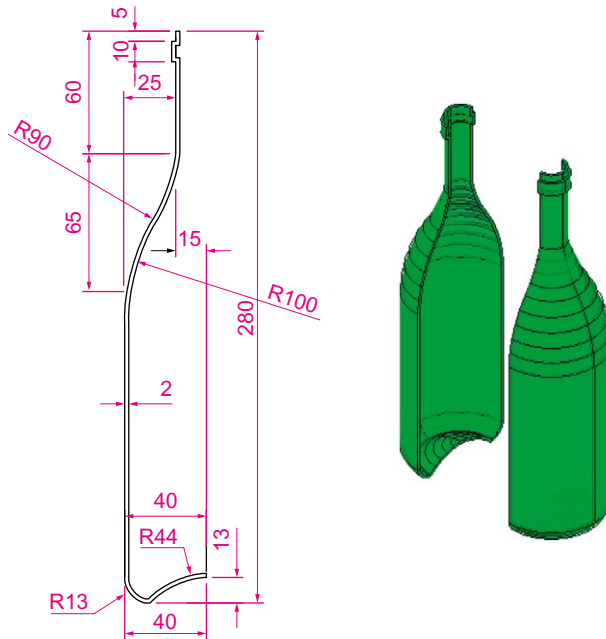

Fig. 14.25 Second example – Slice
### Second example – Slice (Fig. 14.25)
1. On a layer of colour **Green**, construct the closed pline shown in the left-hand drawing (Fig. 14.25) and with the **Revolve** tool, form a solid of revolution from the pline.
The right-hand illustration of Fig. 14.25 shows the result.